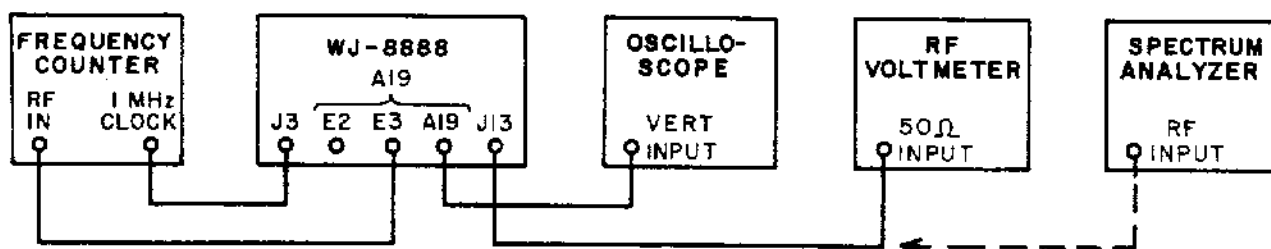

Figure 5-9. Test Setup, 2nd LO Performance Test
- (1) Connect the equipment as shown by the solid lines in Figure 5-9.
- (2) Set the RCVR CONTROL to the LOCAL mode and the rear panel CLOCK switch to EXT.
- (3) Tune the receiver to each of the frequencies listed and verify the corresponding indication on the frequency counter. Each time observe the oscilloscope for an unlock indication. This will appear as either a constant high state or as a pulsed condition, depending on the problem. Either the 1st LO or the 2nd LO becoming unlocked will give the unlock indication at A19A19. Therefore, to isolate the problem, monitor pin 11 of A19U7D for an actual 2nd LO unlock indication.
- (4) Connect the frequency counter to A19E2. The counter should indicate 36,000 00 MHz. (It may be necessary to connect a 6-dB attenuator at the counter input to make this measurement.)